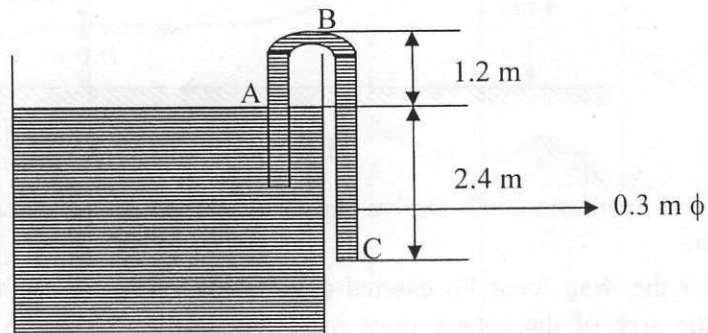

Figure 8
(b). The diameter of a tube is 0.3 m as shown in Figure 8. Determine the velocity of water leaving at C as free jet. Also determine the pressures of water in the tube at B and A. Given, specific weight of water is 9.81 KN/m^3 . (7)